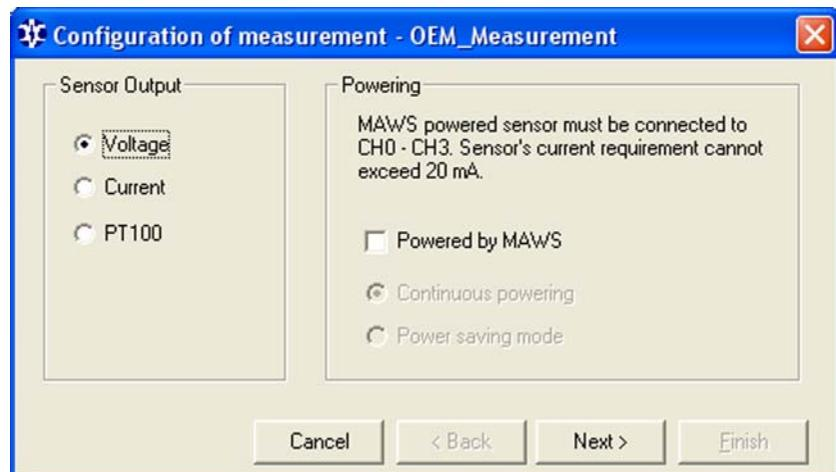

Figure 48 Selecting Input Type and Powering
3. Open the **Utility** menu and select the **Wizard** option. The window presented in Figure 48 on page 121 appears.